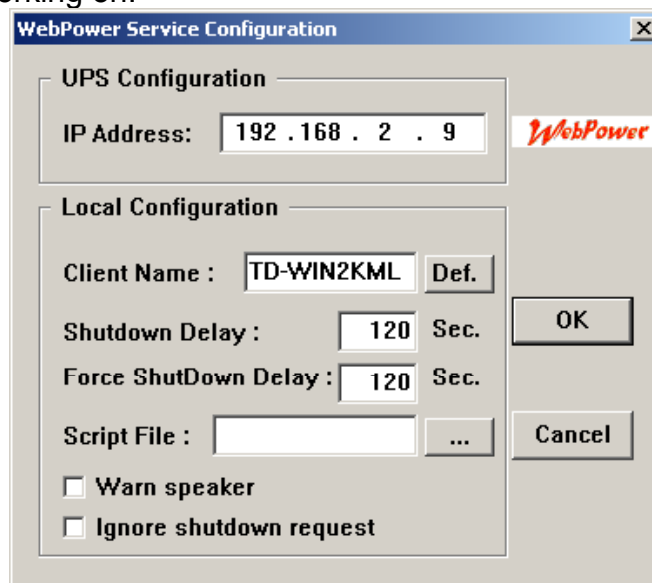

Figure 44 The set-up screen
3. A dialog box will be posted on the screen, type in the IP address of designated WEBPOWER, its client name and shutdown delay time (Figure 44). Click the *Def.* Button if you choose the client name as the workstation you are working on.